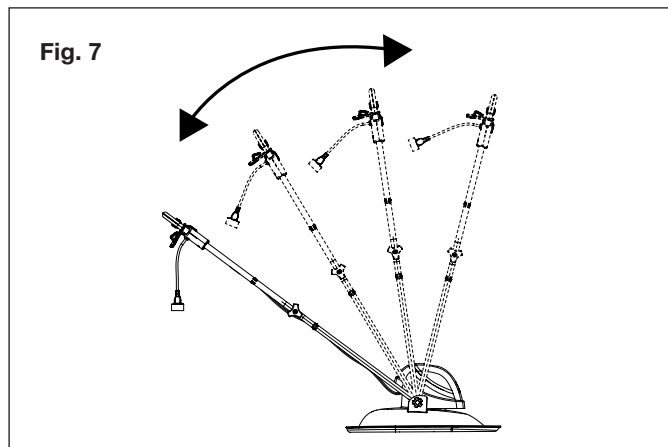

Fig. 7
5. Let the motor get up to speed and start cutting. The handle frame can tilt freely above the cutter to enhance the maneuverability (Fig. 7).